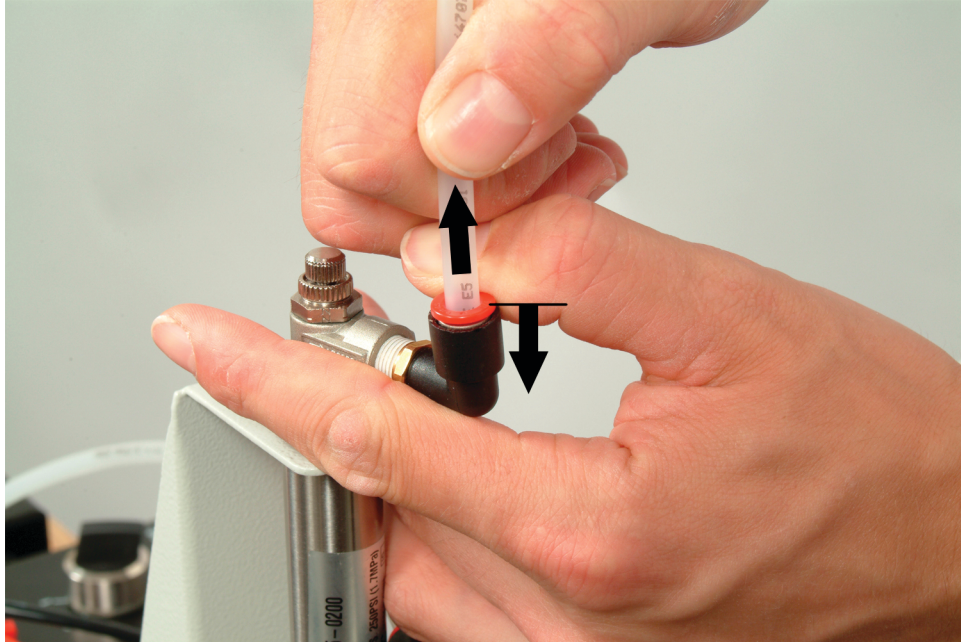

Figure 19. Plastic tubing removal.
-  Plastic tubes are removed by pressing the release ring towards the body of the connector before pulling out the tubing (See Figure 19).